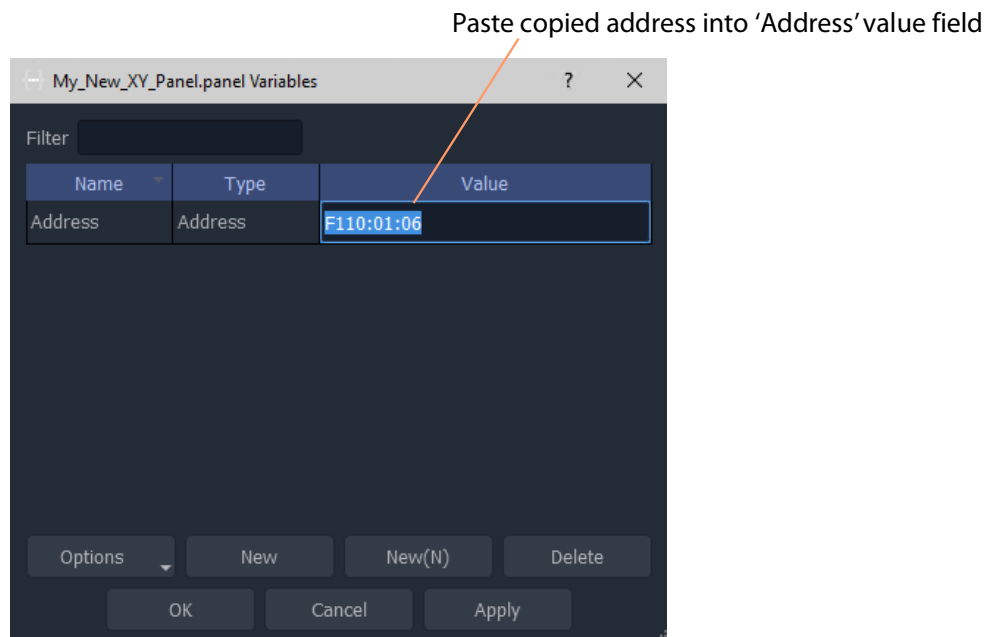

Fig. 12-18: Setting Routing Service RollCall Address for XY Panel
- 2 Go to the XY Panel and right-click on the XY Panel background and select 'Variables...'. The **Variables** dialog is shown. See Figure 12-18.
- 3 In the **Variables** dialog, paste in the copied RollCall address into the value of the 'Address' variable. See Figure 12-18. (Alternatively, simply enter the address manually.)